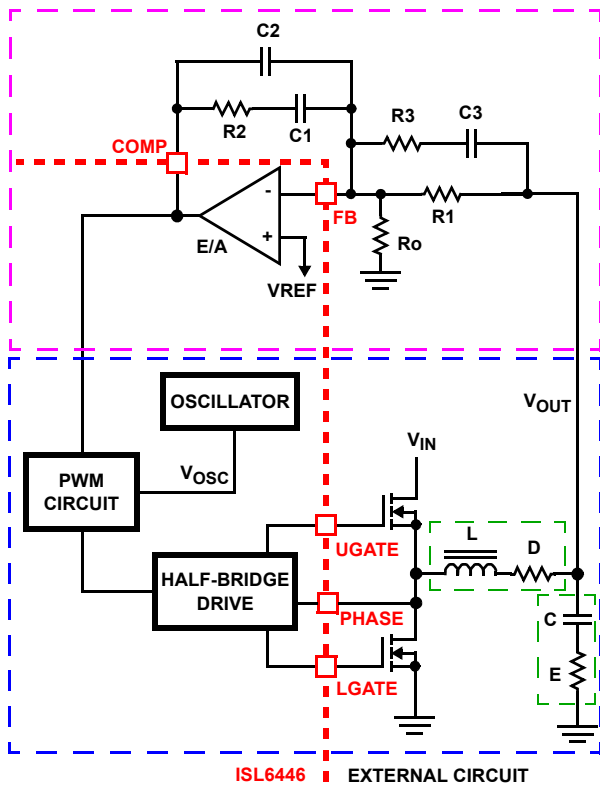

FIGURE 26. VOLTAGE-MODE BUCK CONVERTER COMPENSATION DESIGN
Figure 26 highlights the voltage-mode control loop for a synchronous-rectified buck converter, applicable to the ISL6446 circuit. The output voltage (V_{OUT}) is regulated to the reference voltage, V_{REF} . The error amplifier output (COMP pin voltage) is compared with the oscillator (OSC) modified sawtooth wave to provide a pulse-width modulated wave with an amplitude of V_{IN} at the PHASE node. The PWM wave is smoothed by the output filter (L and C). The output filter capacitor bank’s equivalent series resistance is represented by the series resistor E.
The compensation network consists of the error amplifier (internal to the ISL6446) and the external R1-R3, C1-C3 components. The goal of the compensation network is to provide a closed loop transfer function with high 0dB crossing frequency (F_0 ; typically 0.1 to 0.3 of F_{SW}) and adequate phase margin (better than 45°). Phase margin is the difference between the closed loop phase at F_{0dB} and 180° . The equations that follow relate the compensation network's poles, zeros and gain to the components (R1, R2, R3, C1, C2, and C3) in Figure 26. Use the following guidelines for locating the poles and zeros of the compensation network:
1. Select a value for R1 (1kΩ to 5kΩ, typically). Calculate the value for R2 for desired converter bandwidth (F_0). If setting the output voltage via an offset resistor connected to the FB pin, R_o in Figure 26, the design procedure can be followed as presented in Equation 13.